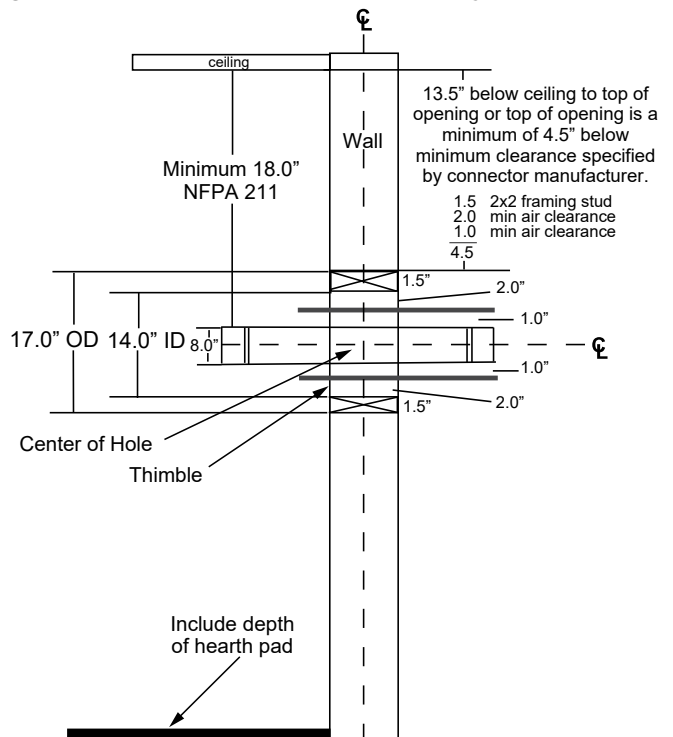

Figure 19.2
- Top of wall opening is a minimum of 13-1/2 inches (343mm) from ceiling or 4-1/2 inches (114mm) below minimum clearance specified by chimney connector manufacturer. **NFPA 211** minimum vertical clearance of 18 inches (457mm) from chimney connector and ceiling or minimum recommended by chimney connector manufacturer (**Figure 19.2**).
1. Open inside wall at proper height for the chimney connector to enter the masonry chimney (**Figure 19.2**).
3. Construct a 17 inch x 17 inch (432mm x 432mm) outside dimension frame from 2 x 2 framing lumber to fit into wall opening. Inside opening of frame should be no less than 14 inch x 14 inch (356mm x 356mm) (**Figure 19.2**).